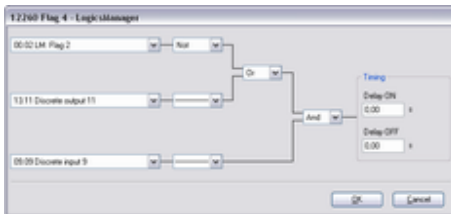

Fig. 215: LogicsManager function "Flag 4"
5. ➤ Configure the LogicsManager function "Flag 4" as shown in (Fig. 215).